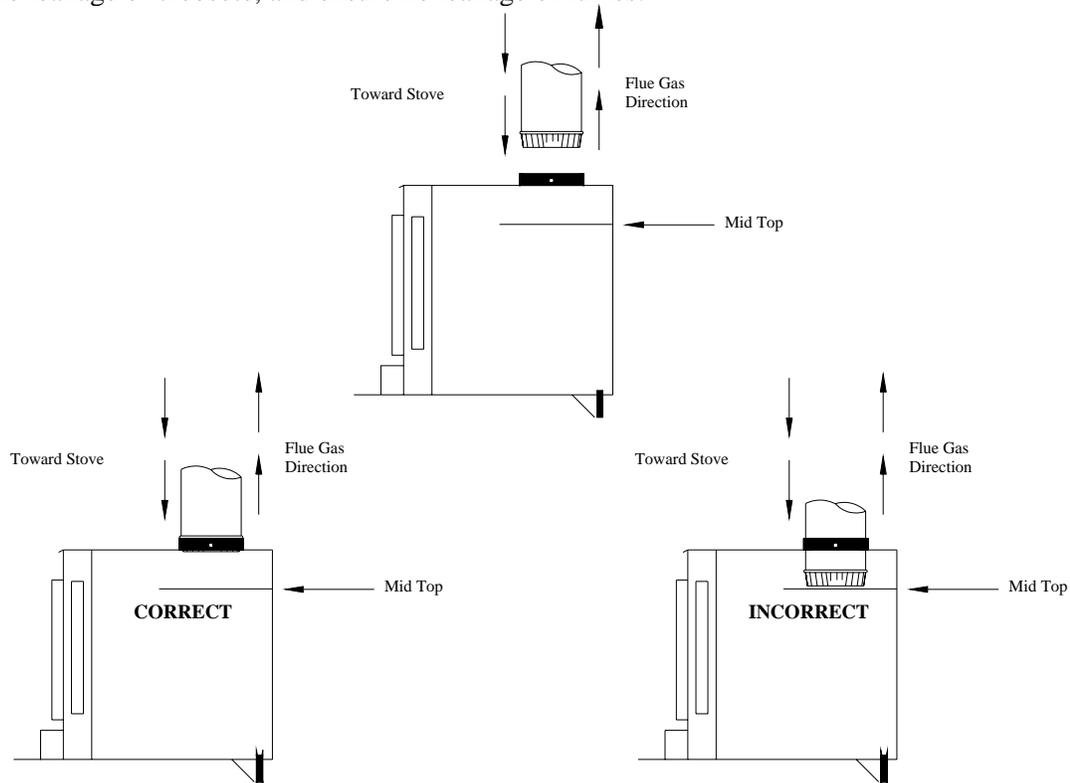

FIGURE 35: CATALYTIC STOVE TO CHIMNEY CONNECTOR INTERFACE
2. **IMPORTANT:** All Country Flame catalytic stove's flue collars have been engineered, tested, and approved for a specific stove that takes into account the minimum and maximum burn rates. These flue collars have the correct inside diameter to accept listed standard chimney connectors from a variety of manufacturers. Ensure the chimney connector is properly interfaced, properly sealed, and properly secured according to local and national codes. FIGURE 35 shows the correct and incorrect installation of a chimney connector into a Country Flame catalytic stove. Installed correctly, the first section of chimney connector will support the entire chimney, ensure no leakage of creosote, and ensure no leakage of fumes.